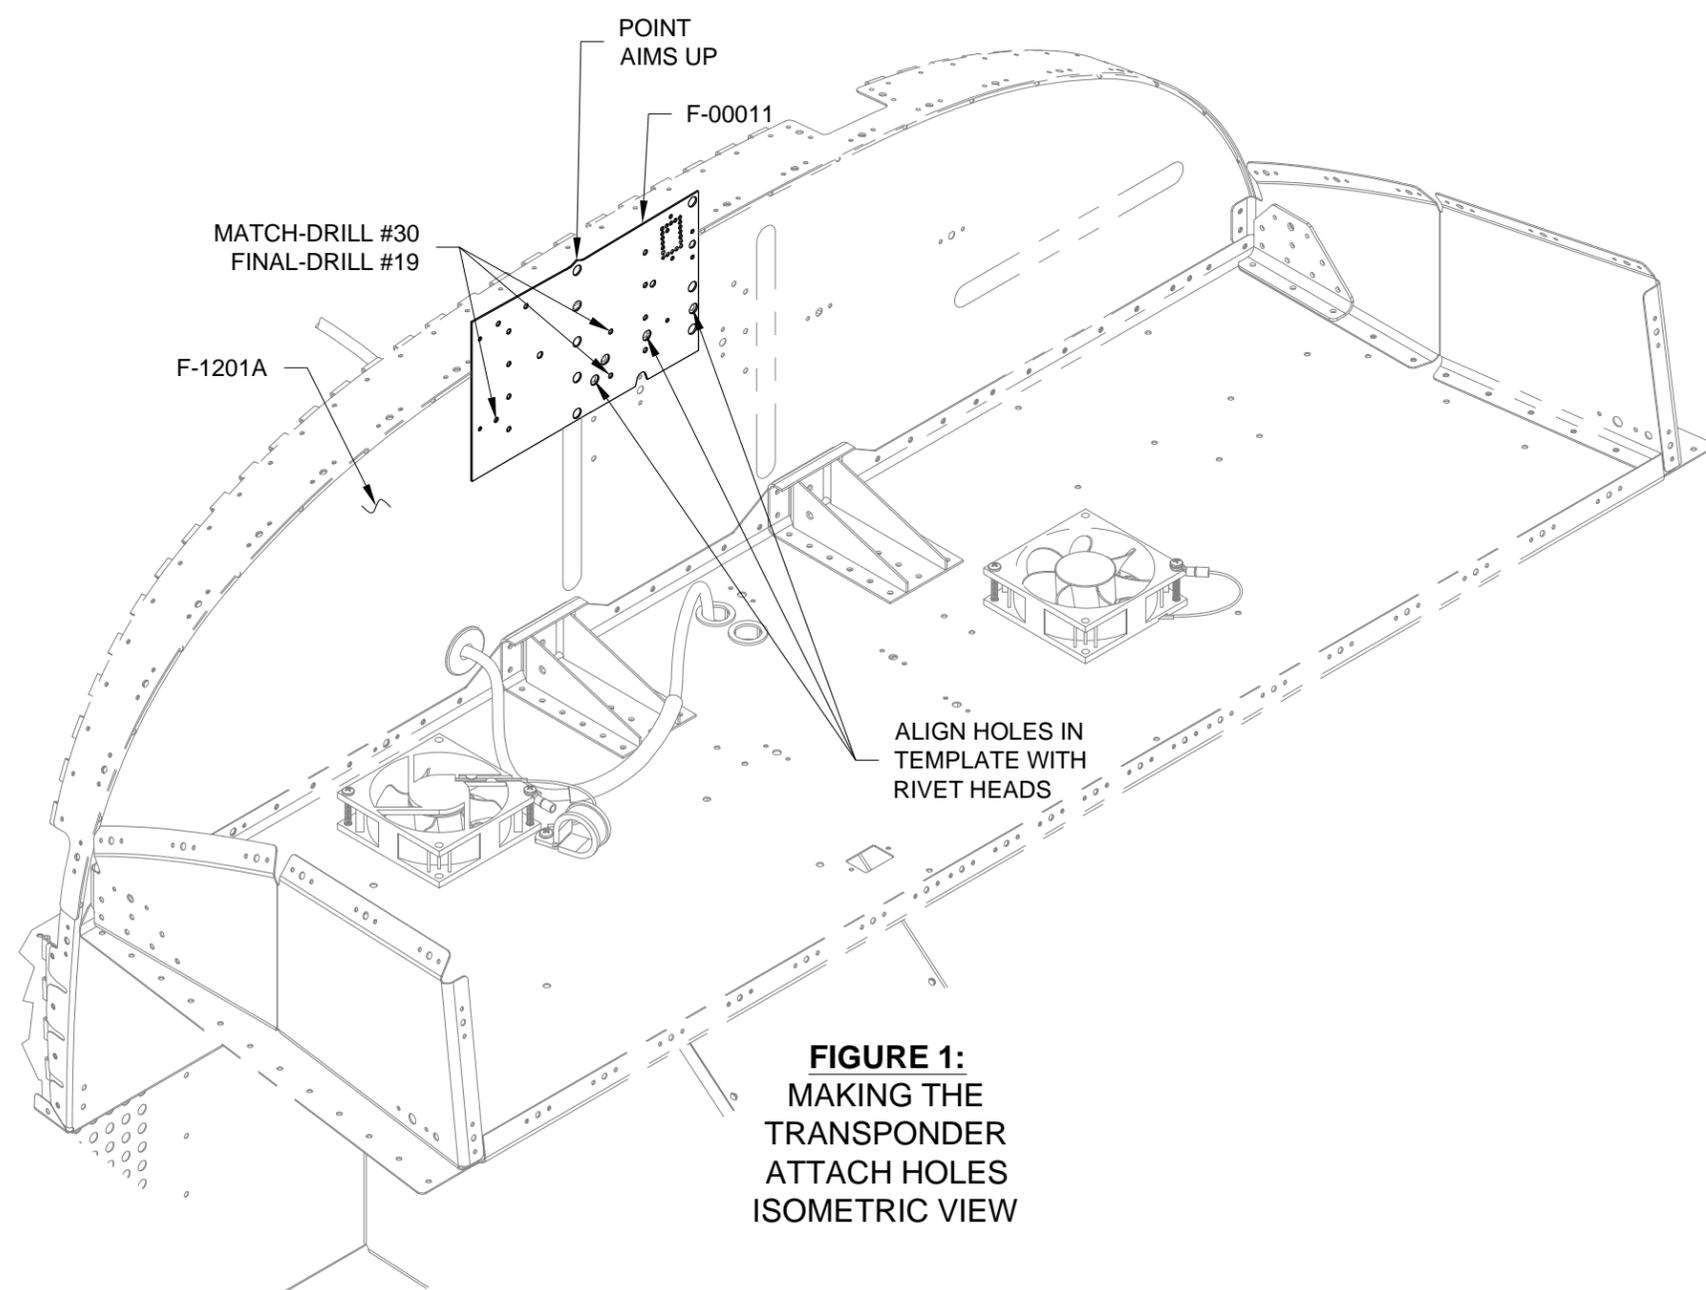

FIGURE 1:
Step 2: Match-Drill #30 the three locations indicated in Figures 1 and 2. Cleco each hole as you drill.